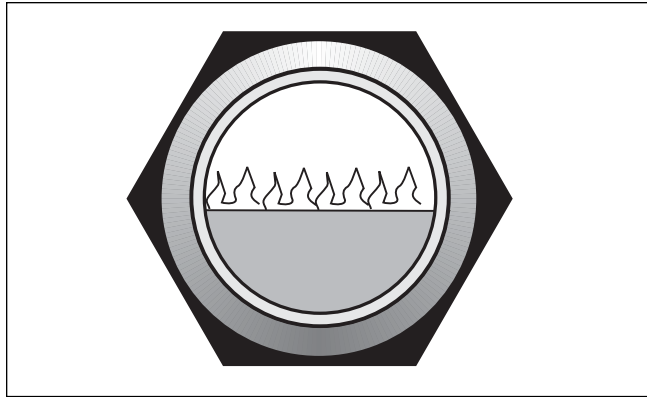

Figure 29. Burner flame (visible near top of heater in mirror).
5. Make a visual check of the main burner flame. The flame can be seen in a mirror/viewport arrangement in the upper part of the heater. The flame should be light blue and the burner surface should be dark, with only a few glowing fibers (see Figure 29).